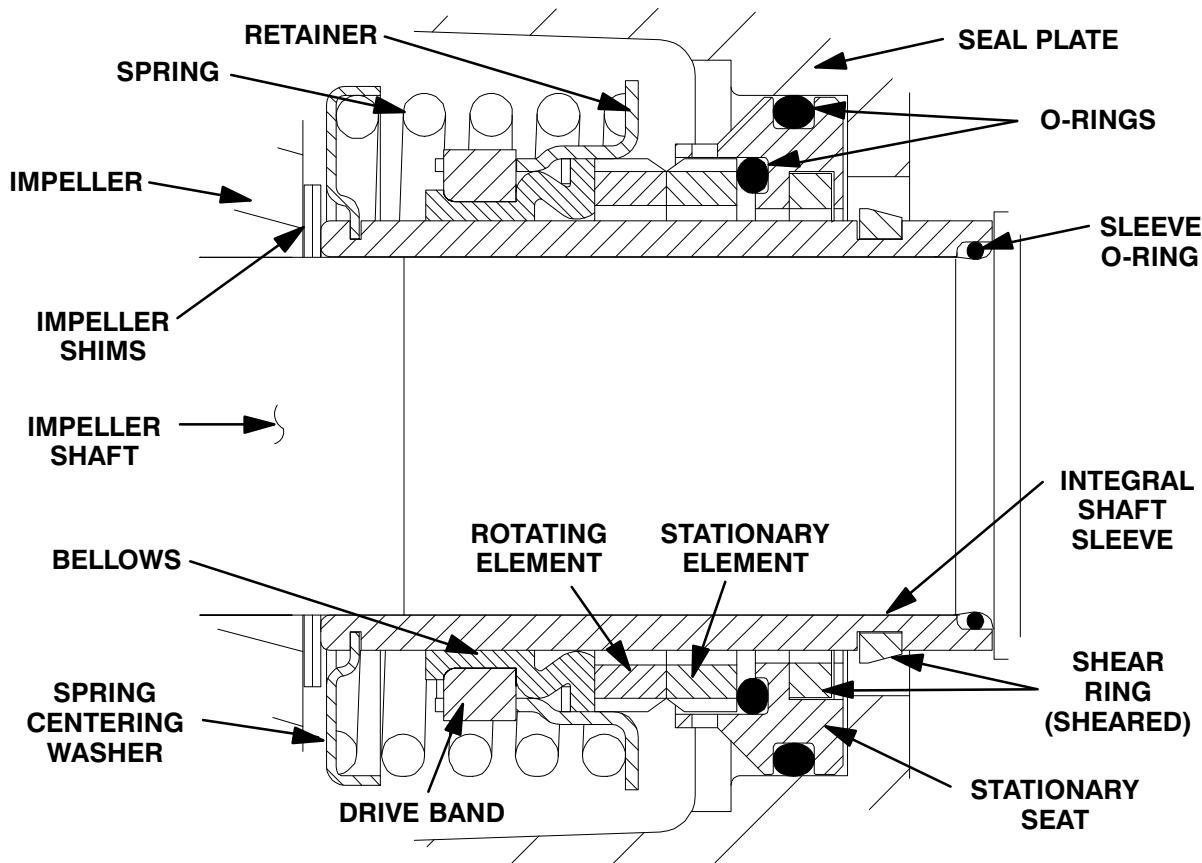

Figure 8. Cartridge Seal Assembly
To ease installation of the seal, lubricate the shaft sleeve O-ring (32) and the external stationary seat O-ring with a very **small** amount of "P-80® Emulsion" or water. See Figure 8 for seal part identification.